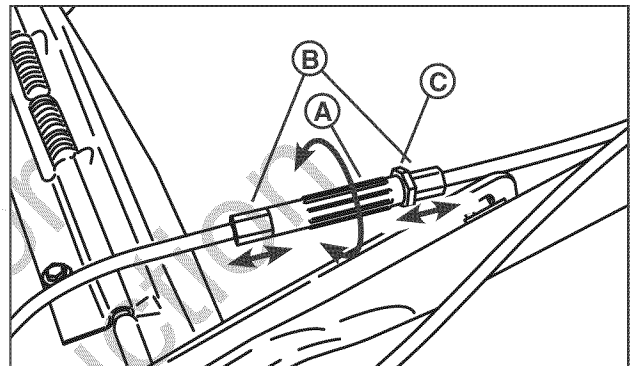

Figure 18: Adjusting the drive cable
- If the transmission does not engage, increase drive cable tension by loosening the jam nut (**C, Figure 18**) and rotating the turnbuckle (**A**) counter-clockwise one-half turn to move the ferrules (**B**) out from the turnbuckle. Tighten the jam nut against the turnbuckle. Check and repeat as needed.